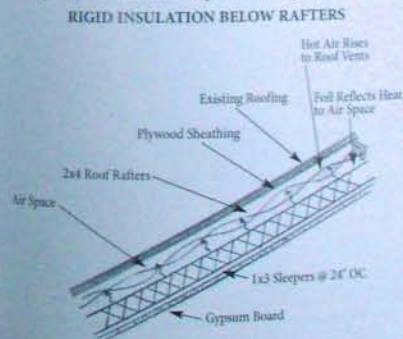

Figure 4
- **Insulation and moisture control.** Expanding into your attic will change the boundary of your thermal envelope (see chapter 7, page 108). Insulate knee walls (the short walls at the outer edge of an attic) to the same level as your exterior walls. You'll want to insulate the roof, too, but rafters are usually too shallow for adequate roof insulation (see figure 4). If so, you might want to extend the rafters and install rigid insulation, or use a blown-in foam insulation to eliminate the need for roof ventilation. If you are creating a living space in your garage attic, protect your indoor air quality by air-sealing completely between the new space and the garage.